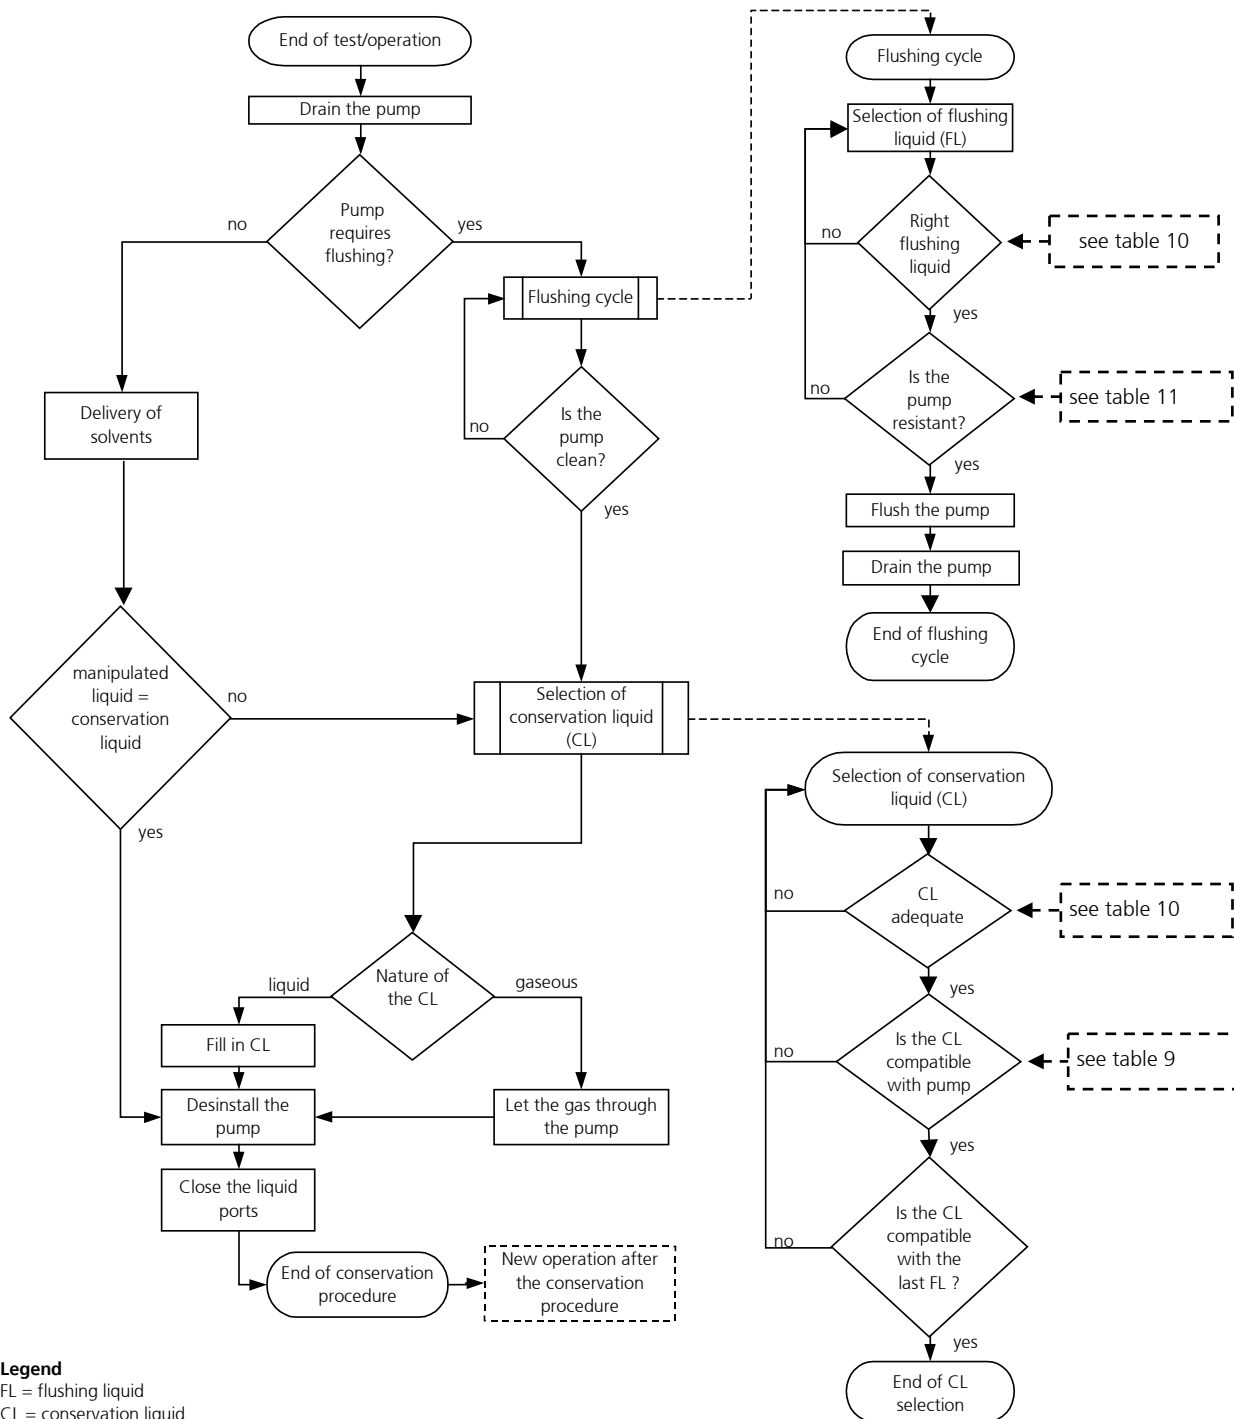

figure 15 Shutdown procedure
By proceeding as shown in the diagram (see figure 15) you may prepare the pump for a longer standstill.
*Remark:* This diagram is repeated as a part of the figure 15 »Shutdown procedure«.